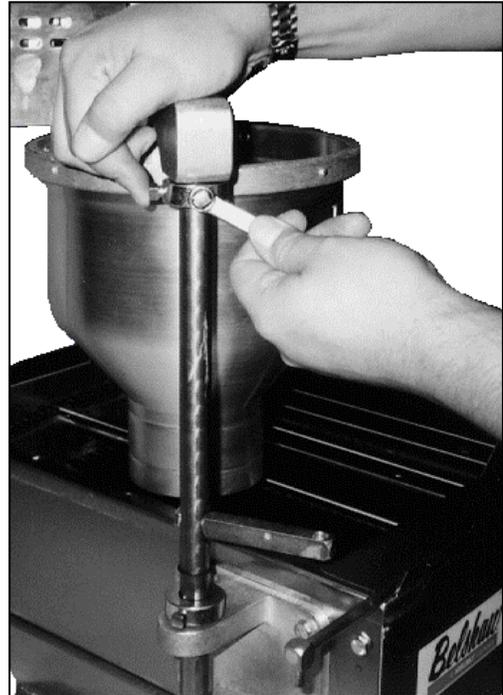

Figure 1-9. Adjusting the Swing of the Hopper.
- d. Tighten the setscrews. See Figure 1-9.